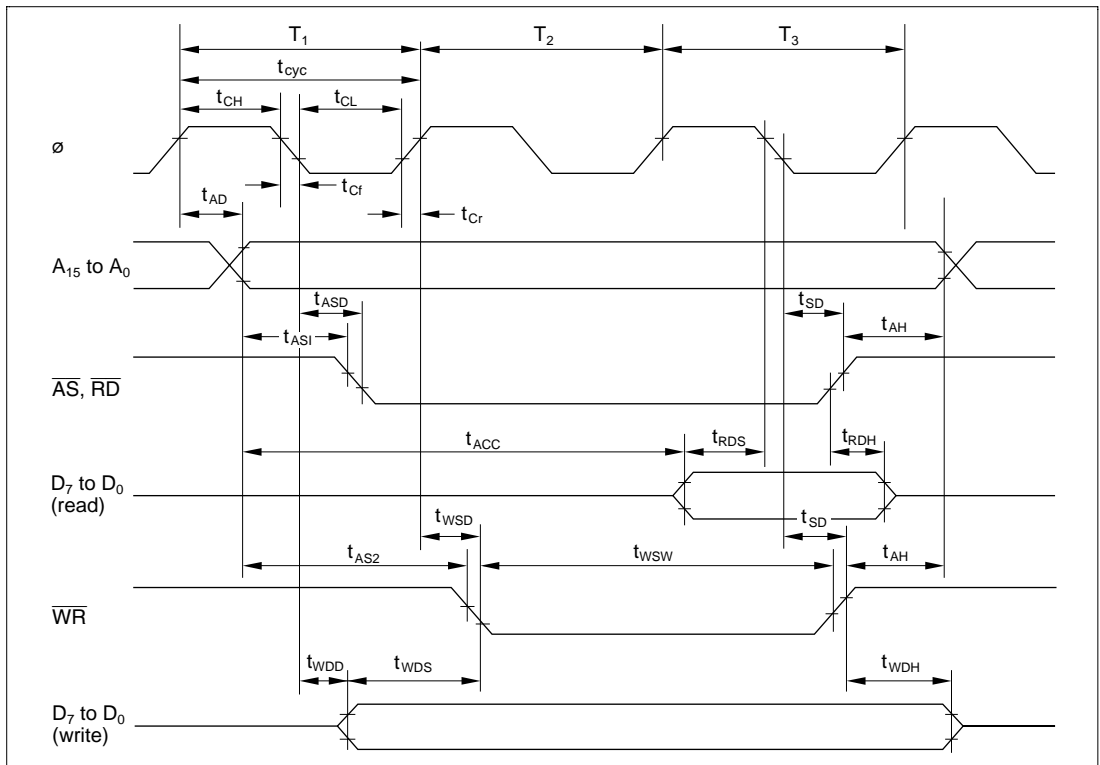

Figure 23.7 Basic Bus Cycle (without Wait States) in Expanded Modes
23.5.1 Bus Timing	Figures 23.7 and 23.8